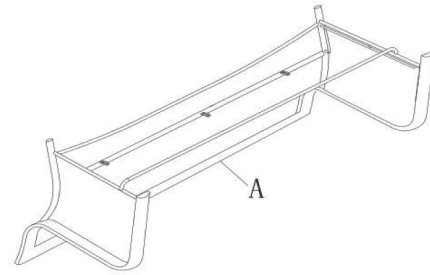

Figure 1
Step 1. Carefully place the seat frame (A) upside down on a non-abrasive surface. (Figure1)